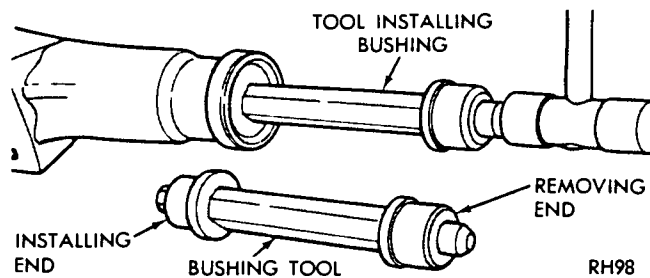

Fig. 9—Replacing Extension Housing Bushing
(2) **A-904T and A-999:** Press or drive out bushing with Tool C-3996 (Fig. 9).
(3) **A-904T and A-999:** Slide a new bushing on installing end of Tool C-3996. Align oil hole in bushing with oil slot in the housing, then press or drive bushing into place (Fig. 9).